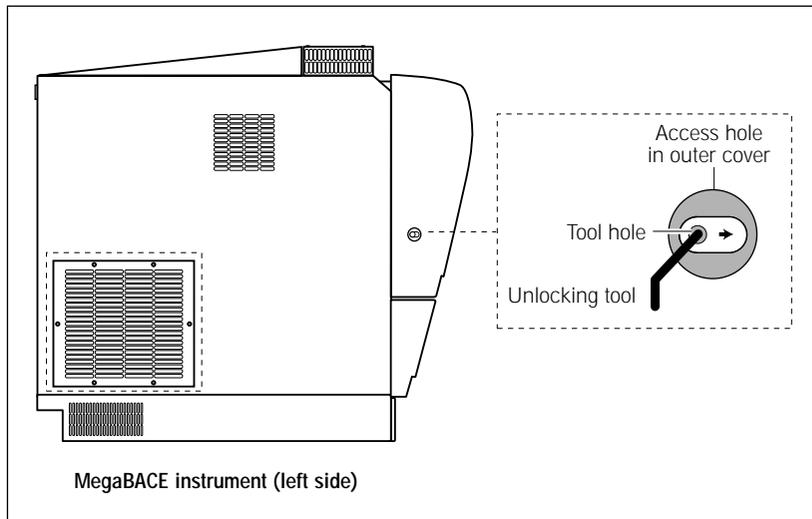

Figure 6-1. The unlocking tool and the access hole on the left side of the electrophoresis compartment lid.
2. Insert an unlocking tool, such as a hex wrench or screwdriver, into the access hole (figure 6-1).